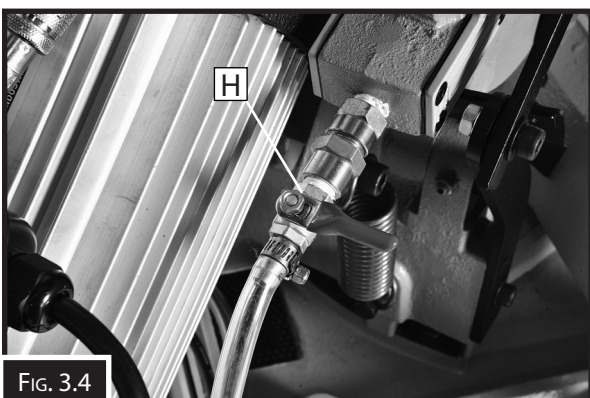

FIG. 3.4
7. Turn cutting fluid valve to open position (H in Fig. 3.4).